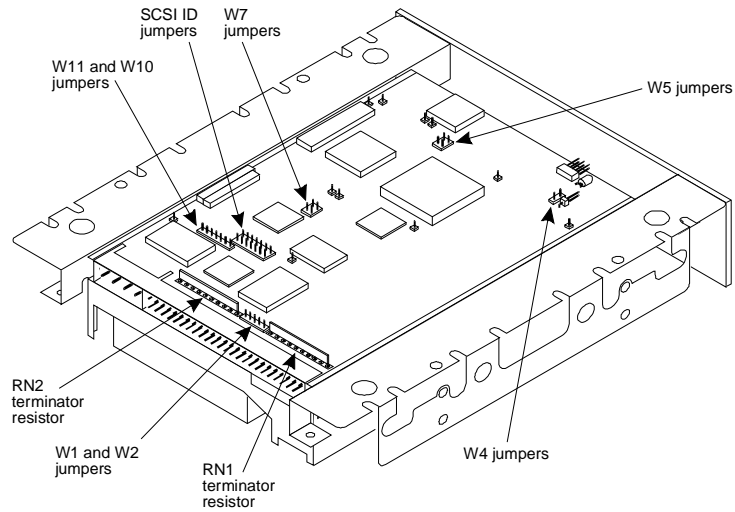
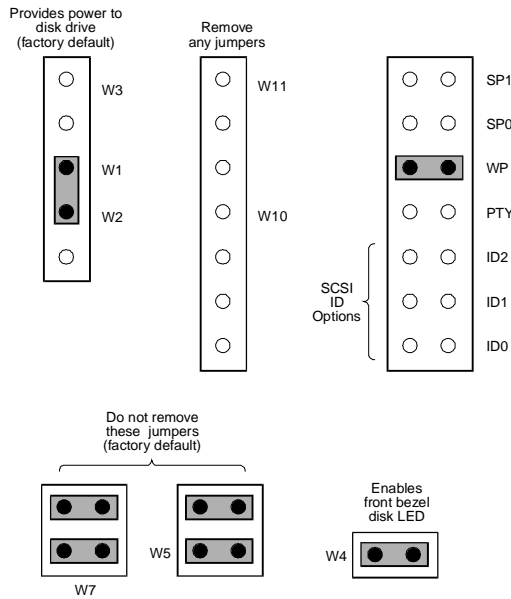
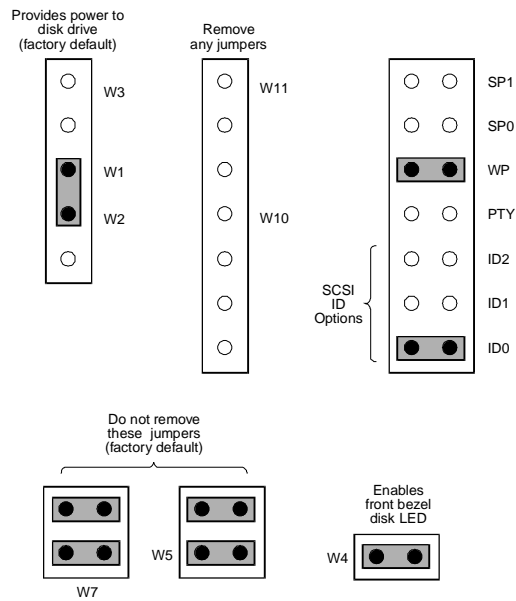

Figure B-15. Jumper Locations on the 1.7-Gbyte SCSI Hard Disk Drive (Comcode 407071950)
Figure B-16. Jumper Settings for the First 1.7-Gbyte (Comcode 407071950) SCSI Hard Disk Drive Installed; Drive 0
Figure B-17. Jumper Settings for the Second 1.7-Gbyte (Comcode 407071950) SCSI Hard Disk Drive Installed; Drive 0
13. Place the defective hard disk drive on an ESD-protected work bench. Loosen and remove two Phillips head screws on each side of the drive to release it from the mounting brackets. These screws are shown as Item(s) 8 in Figure B-16 (Position 3 drive) or B-17 (Position 4 drive).
- n Figure B-15 shows the location of the jumpers on the 1.7 Gbyte SCSI hard disk drive (Comcode 407071950). Figure B-16 and Figure B-17 show the jumper settings.